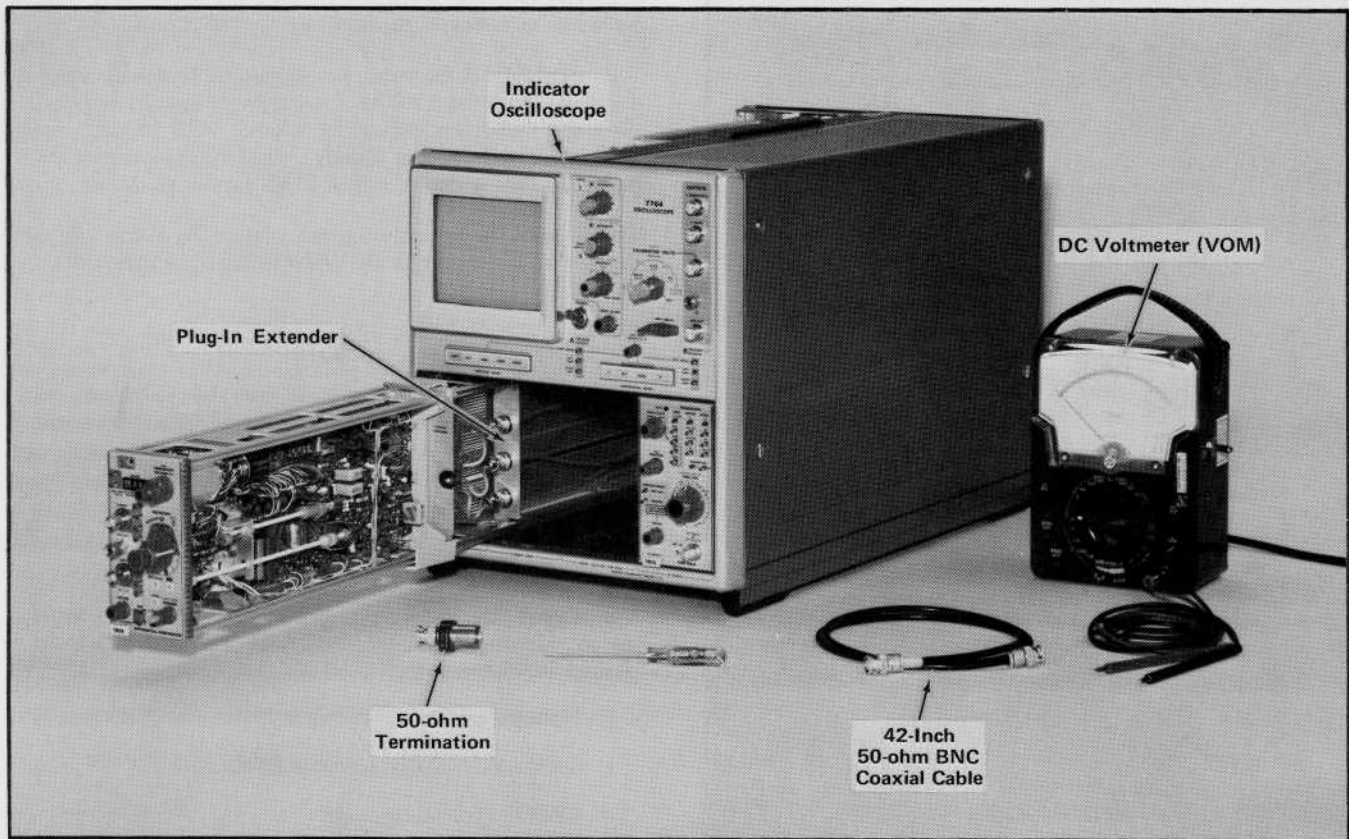

Fig. 5-2. Equipment required when using steps 1 through 9 as a calibration procedure. (The performance check begins with step 8. See text.)
1. Check/Adjust Position Center and DC Balance ①
- a. Test equipment setup is shown in Fig. 5-2.